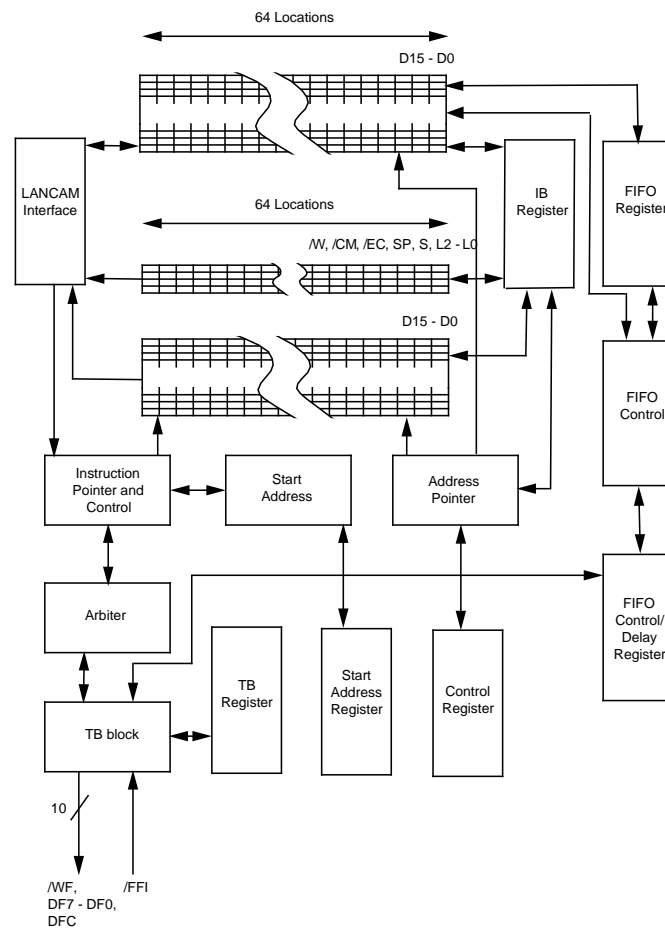

Figure 1: The Instruction Buffer
The Instruction buffer (IB) shown in Figure 1 consists of the following: the 64-entry Instruction Storage (IS), the 64-entry Data Storage (DS), the Instruction pointer (IP), the Address pointer, the Start address registers, the FIFO, and FIFO control registers.